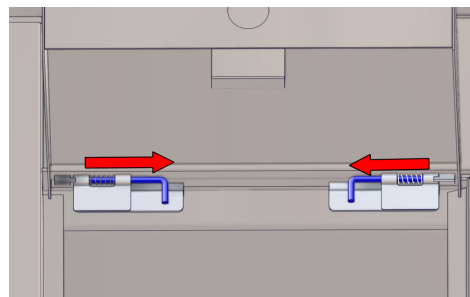

Fig. 26: Push hinges inward
3. Push the hinge pins inward to release the door from the hinges (Fig. 26).